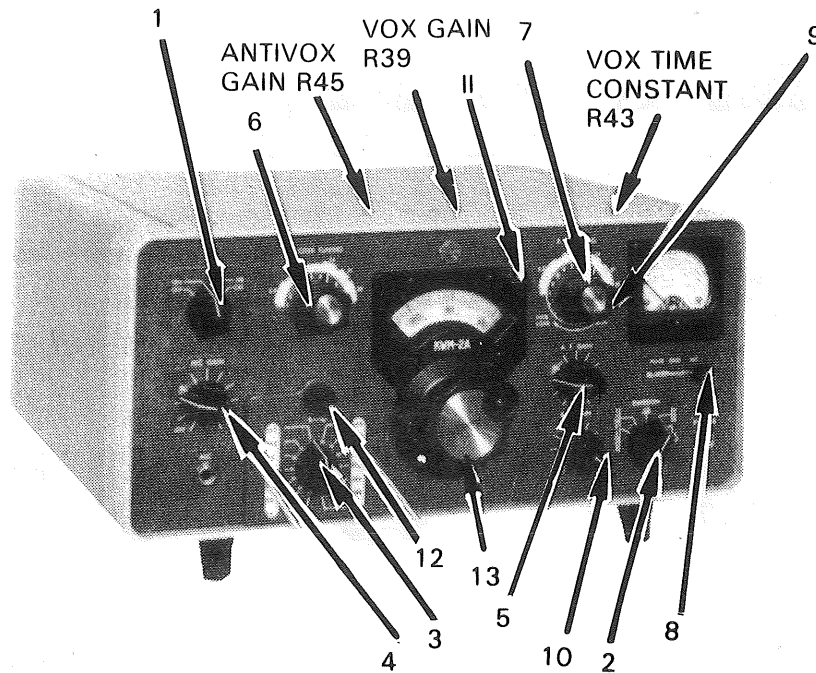

Figure 3. Operating Controls for Collins KWM-2-A.
2. Perform starting procedures and insure your Receiver RT-718/FRC-93 (KWM-2/2A) is correctly tuned. (Refer to fig 3 for operator controls.) Follow these steps to properly tune the receiver: (Refer to TM 11-5820-554-12, chap 3, sec III, para 3-9 thru 3-11, pp 3-6 and 3-7.)
- k. Return FUNCTION switch (1) to the ON position and tune dial to desired frequency.
3. Insure your Transmitter RT-718/FRC-93 is properly tuned by utilizing the operating controls as shown in figure 3. Follow these steps to tune the transmitter. (Refer to TM 11-5820-554-12, chap 3, sec III, para 3-9 thru 3-12, pp 3-6 thru 3-11.)
- a. Set EMISSION switch (2) to TUNE position. Set P.A. TUNING control (7) to white portion of dial indicating the desired band for amateur operation.